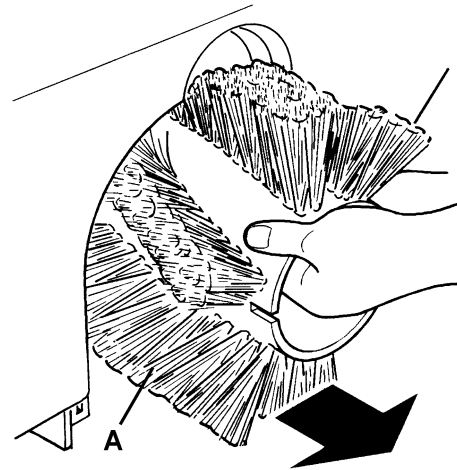

Figure 4
6. Remove the broom (A, Fig. 4).